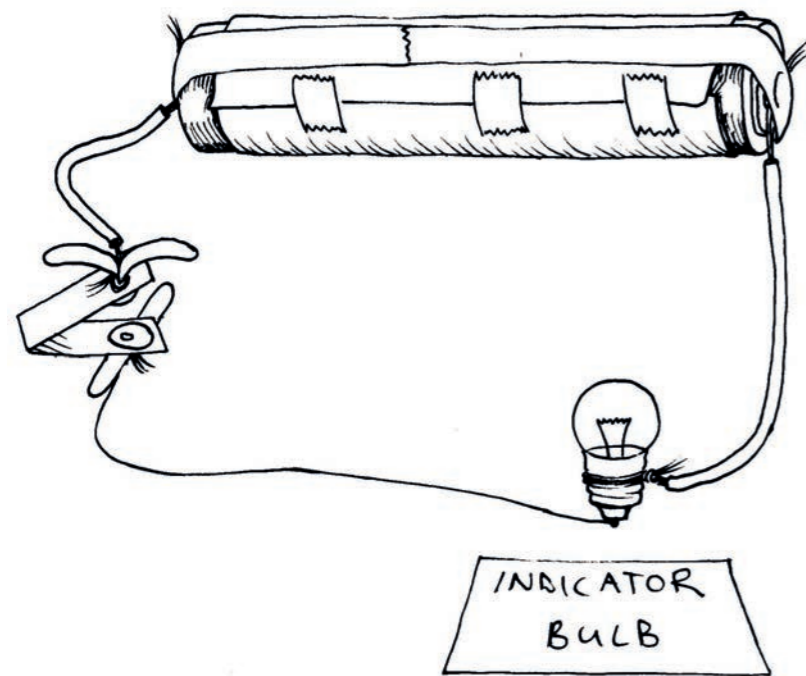

Figure 3
1. Set up the circuit shown in Figure 3. Press the switch to make the bulb glow, and notice how brightly it glows. This first bulb will be your *indicator bulb*.
The same current flows through both bulbs. But the indicator bulb is glowing dimmer than in the circuit in Figure 3. So the current is now smaller than it was in the circuit in Figure 3.